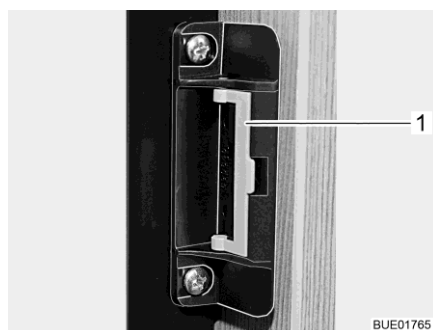
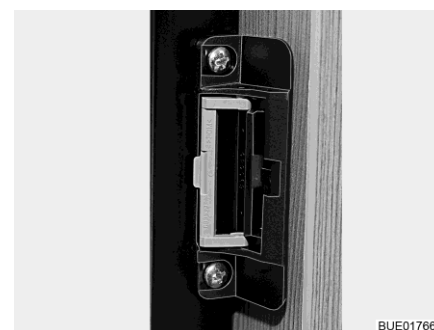

Fig. 91 Locking device in normal position
Fig. 92 Locking device in ventilation position
■ Swing the bracket (Fig. 91,1) to the front (Fig. 92).